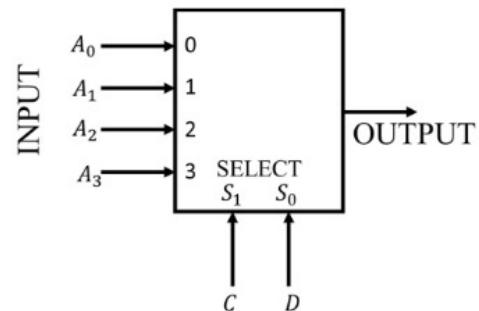

Fig. 4.23: MUX
40. Consider the 2-bit multiplexer(MUX) shown in Fig. 4.23.